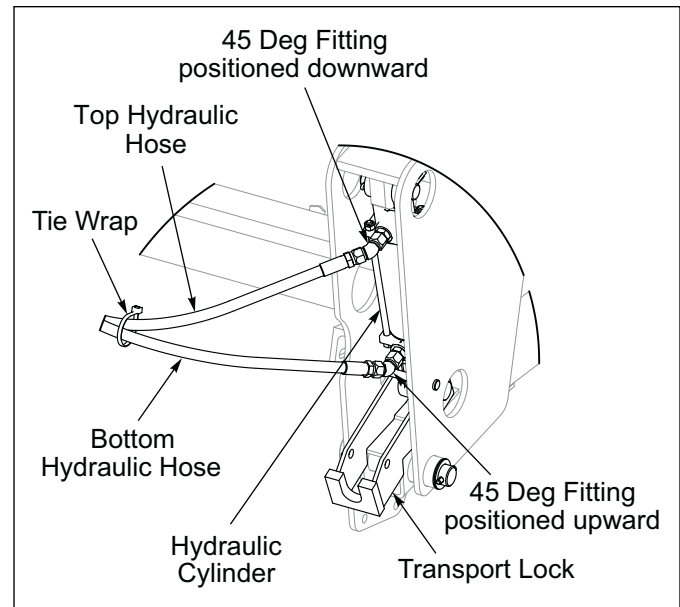

Figure 2-11: Cylinder Fittings Positioning
1. Restrictors installed in Cylinder Ports, connect 45 Degree Fitting so they are free to swivel. Connect top Hydraulic Hose to the Cylinder Base and bottom Hydraulic Hose to the Cylinder Rod End. Position the Hydraulic Hoses so that the Cylinder Base End points downward and the Cylinder Rod End points upward. Merge Hydraulic Hoses together and Tie Wrap them together about 12 inches from the Hose End. See Figure 2-11. Be sure that the Hoses cannot sag and make contact with the Front Roller Wheels.
2. Route the Drawbar Hydraulic Hoses along Drawbar toward the Tractor. Secure Hoses to Drawbar with Hose Clamp Pairs, Top Plate and 1/4-20 x 1-1/2 Bolt. See Figure 2-11.